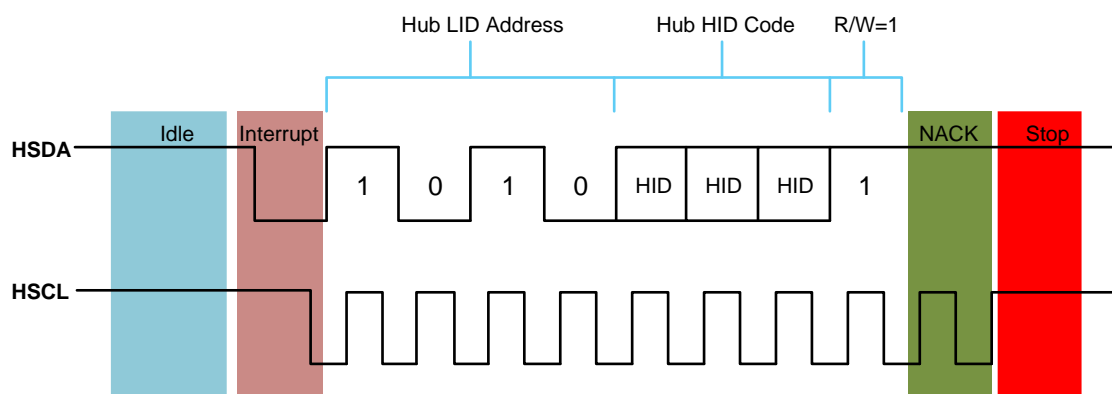

Figure 14. SPD5 Hub Interrupt; Host NACK followed by STOP
- The Host sends NACK on the 9th bit as shown in Figure 14 followed by a STOP command. In this case, the SPD5 Hub device does not transmit the IBI payload and waits for the next opportunity to request an interrupt. At this point, though Host sent a NACK, it does have a knowledge of which SPD5 Hub device sent the IBI request. The SPD5 Hub retains the IBI status flag MR48[7] = '1' and Pending Interrupt Bits [3:0] = '0001'.